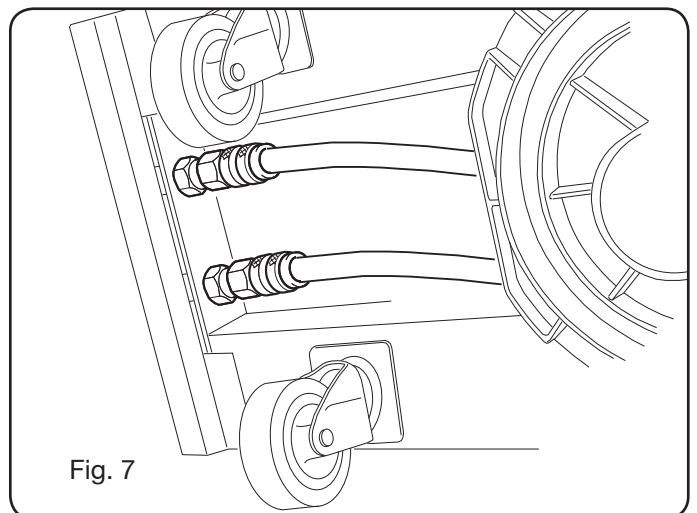

Fig. 7
- The coolant fluid hoses must be connected to the quick-fitting valves located below the lower part of the wire feeder trolley (see fig. 7), by matching the colours appearing on the trolley front side.